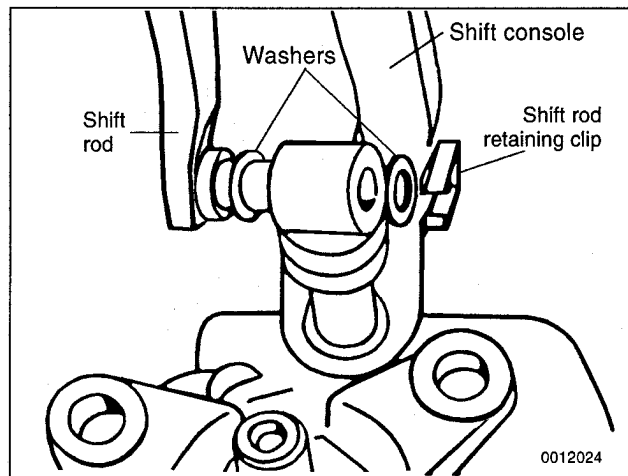

**Fig. 11.** Shift lever to transmission connection.
8. Disconnect shift rod from transmission selector shaft. See Fig. 11.